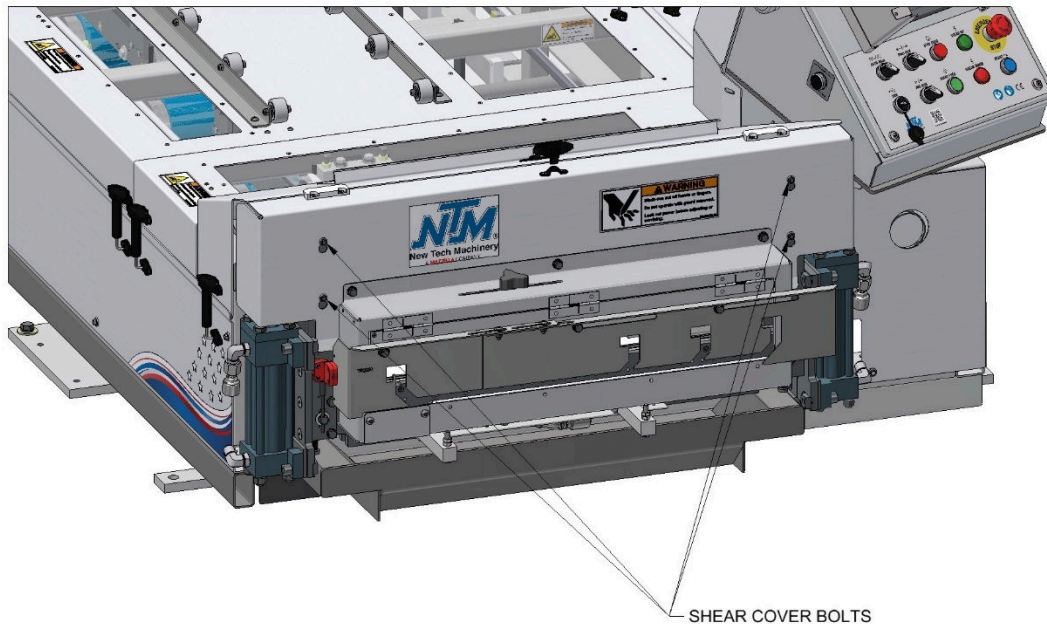

Figure 73: Removing Shear Cover
26. Using a 3/8" wrench, loosen the four (4) Shear Cover Bolts (Figure 73) about two turns and remove the Shear Cover.